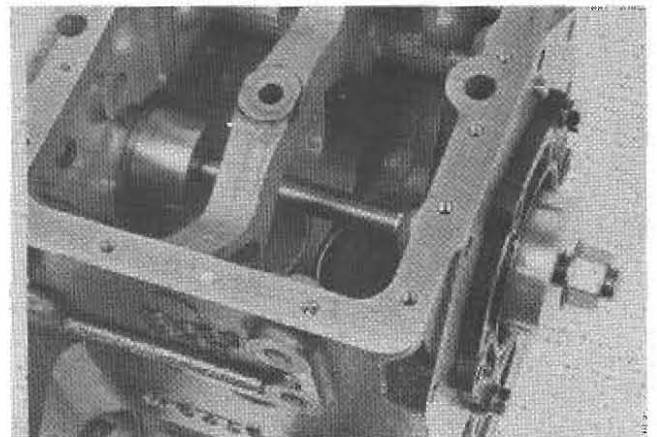
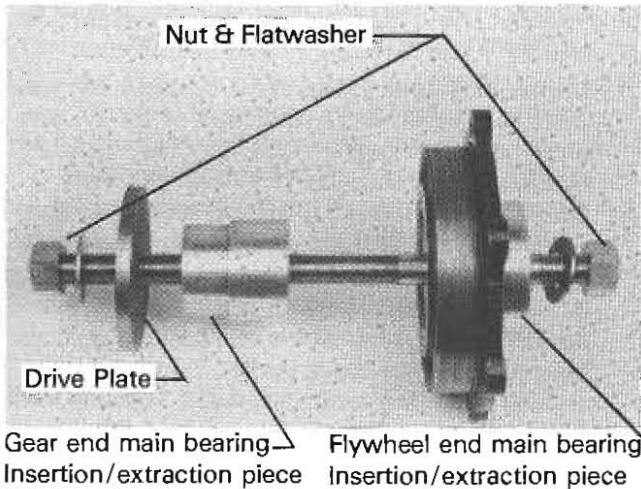

Fig. 3-16 Insertion & Extraction Tool Assembled in Block for Flywheel End Main Bearing Removal
Fig. 3-17 Proper Arrangement of Insertion & Extraction Tool Pieces for Flywheel End Main Bearing Removal
9. To remove flywheel end main bearing from main bearing housing, assemble special insertion/extraction tool in the cylinder block as shown in Fig. 3-16. Refer to Fig. 3-17 to see clearly the position and relationship of the pieces assembled in the block in Fig. 3-16.